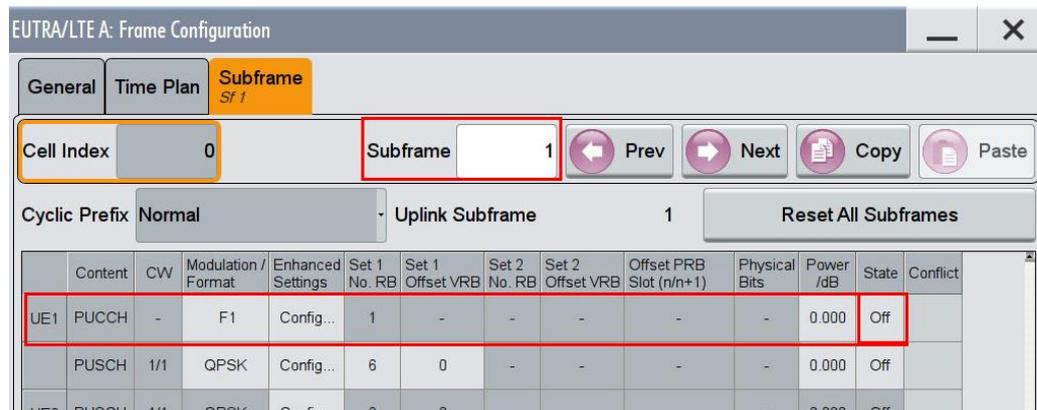

Fig. 3-105: In the second configurable subframe (subframe #1) the PUCCH is not transmitted (state off)
10. Make sure that the PUCCH in the second configurable subframe is not transmitted.(State **Off**) (Fig. 3-105)